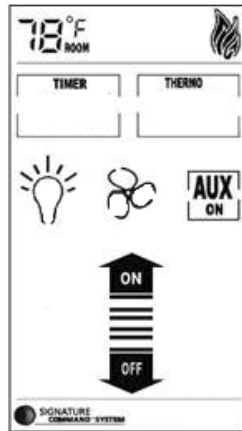

Figure 63
- During the 10 seconds, press the OFF button on the transmitter to learn. Another two beeps will be given to confirm a successful learning. Figure 63
Manual Mode (Figure 63)